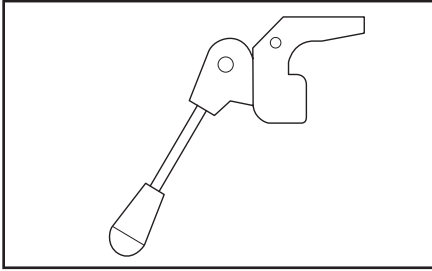

Figure 6
3. Main fence lock should engage fully onto flat machined in the fence lock cam. This should engage securely but not be overly tight. Figure 6.